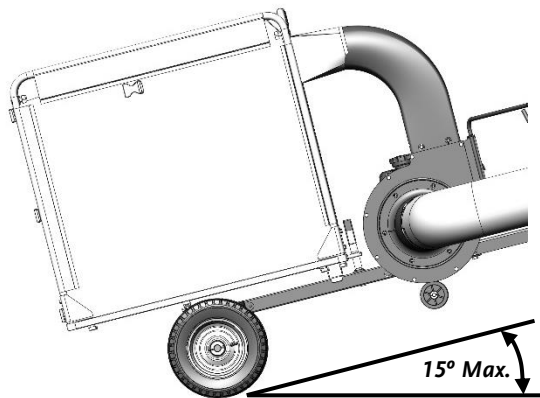

Figure 70
- Do not use the DR Leaf and Lawn Vacuum on slopes greater than 15 degrees (**Figure 70**). Doing so could result in serious injury to yourself or damage to your machine.